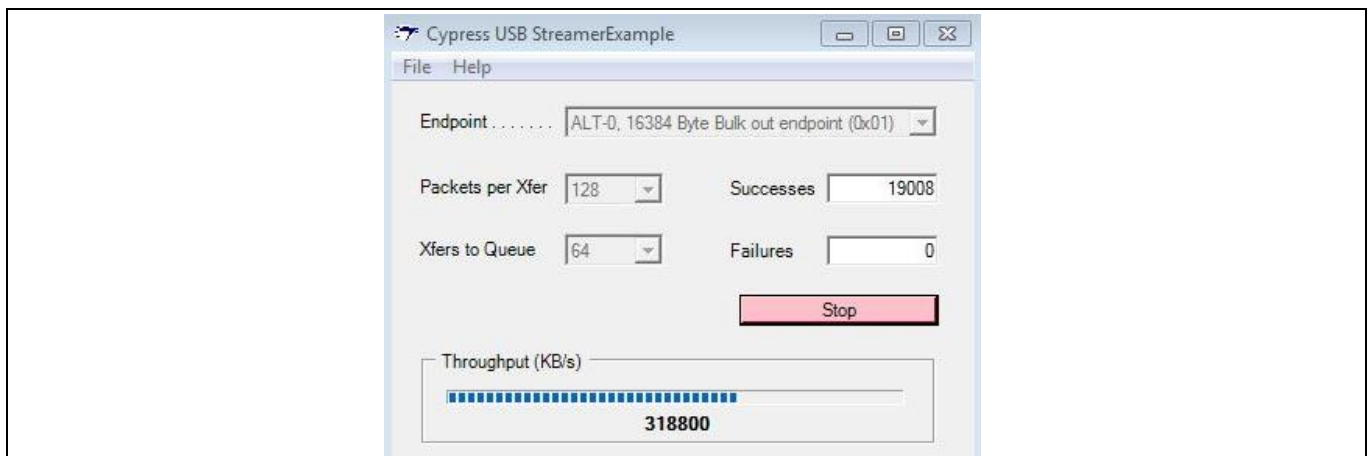

Figure 56 Streaming OUT performance in streamer utility
5. In the stream OUT case, the FPGA is already in a state where it is waiting for FLAGC to equal 1. As soon as the data is available, the FPGA will start reading continuously from FX3's PIB_SOCKET_3. From the USB host, you can issue continuous Bulk OUT transfers. Select the BULK OUT endpoint in the streamer utility and click **Start**. The performance number is displayed. The performance shown in **Figure 56** is observed on a Win7 64-bit PC with an Intel Z77 Express Chipset.